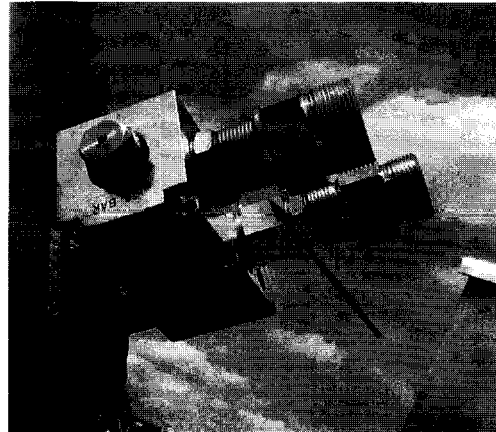

Fig. 4-2
- then the "boost oil return" hose (fig. 4-2).